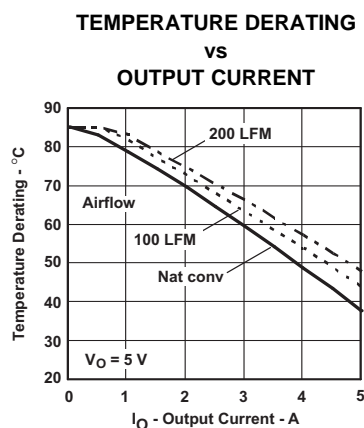
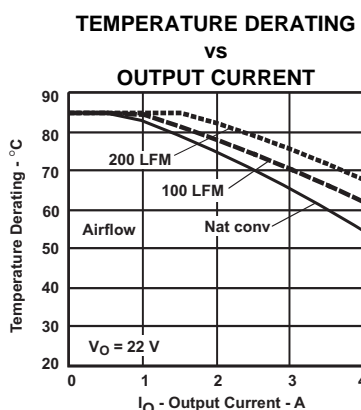

Figure 20.
Figure 23.
- (2) The temperature derating curves represent the conditions at which internal components are at or below the manufacturer's maximum operating temperatures. Derating limits apply to modules soldered directly to a 100 mm x 100 mm double-sided PCB with 2 oz. copper. For surface mount packages (AS and AZ suffix), multiple vias (plated through holes) are required to add thermal paths around the power pins. Please refer to the mechanical specification for more information. Applies to Figure 20 through Figure 23.